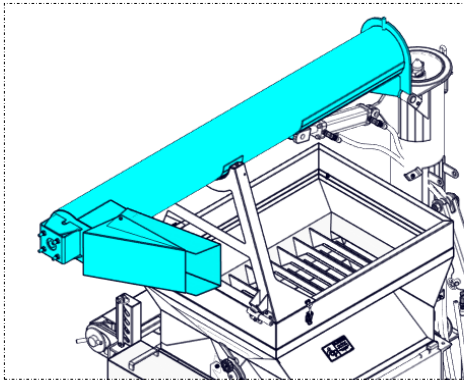

Figure 4.12
- 1) Using the tractor's hydraulics, unfold the upper section of the auger (Figure 4.12).